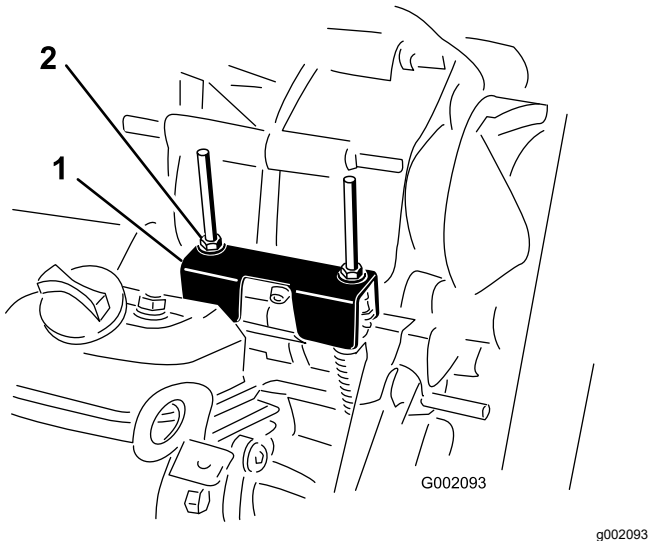

Figure 46
When performing routine maintenance and/or engine diagnostics, the transaxle must be shifted into NEUTRAL (Figure 46). The machine has a NEUTRAL position on the shift lever, which controls the neutral in the transaxle. Perform the following steps to ensure that the neutral shift lever operates the transaxle neutral correctly:
2. Ensure that the neutral bracket is in the NEUTRAL position (level to the cable mounting bracket located below the shift bracket) by turning the driven clutch (Figure 46).
3. Rotate 1 of the locknuts (Figure 46) to achieve a 0.762 to 1.524 mm (0.030 to 0.060 inch) gap between the bottom of the nut/washer and the neutral bracket.